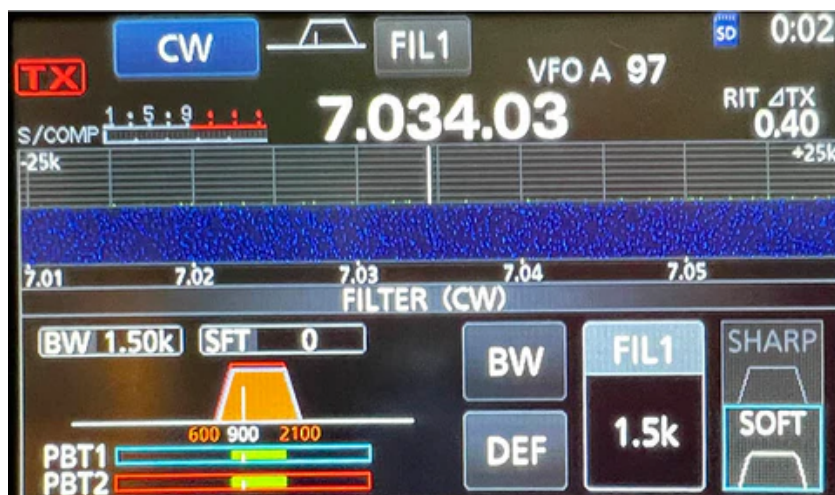

FIGURE 16: 7300 FILTER SETTING
There are 3 built-in filters, and the one you are currently using is shown to the right of the blue CW button on the 7300 LCD screen, at the top of the screen (see Figure 16 on the next page). Here, we see a gray button labeled FIL1, which is Filter 1. Pressing briefly switches between filters, but pressing and holding brings up the settings for the filter. In the figure, you see the effect of holding down FIL1 at the bottom of the screen, an area called FILTER (CW). Note that you can use any of the 3 filters for this purpose.